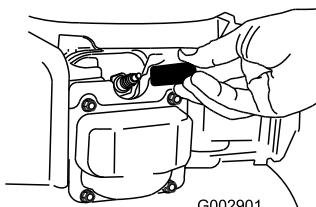

Figure 36
- Disconnect the spark-plug wire from the spark plug (Figure 36) before performing any maintenance procedure.